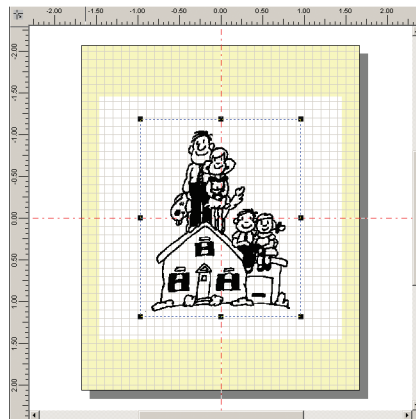

Figure 9-3 Family.tif
- 5 Select the *Family.tif* file and click *Open*. The bitmap file is shown in Figure 9-3.